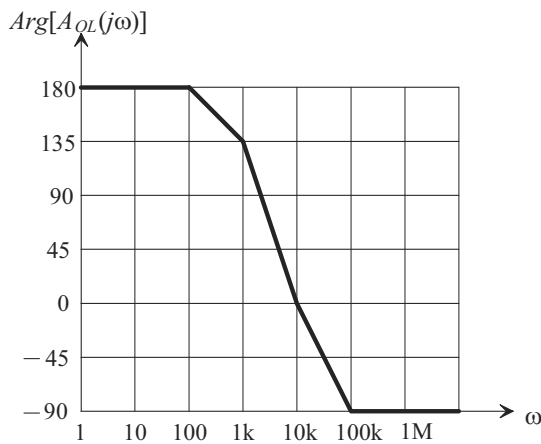

Figure 31.67 Phase response used in problem 31.31.
31.31 The phase plot of an amplifier is shown in Fig. 31.67. The amplifier has a midband gain of $-1,000$ and 3 zeros at $\omega = \infty$ and three other unspecified poles. If the amplifier is configured in a feedback configuration and β is frequency independent, what is the exact value of β that would be necessary to cause the amplifier to oscillate?